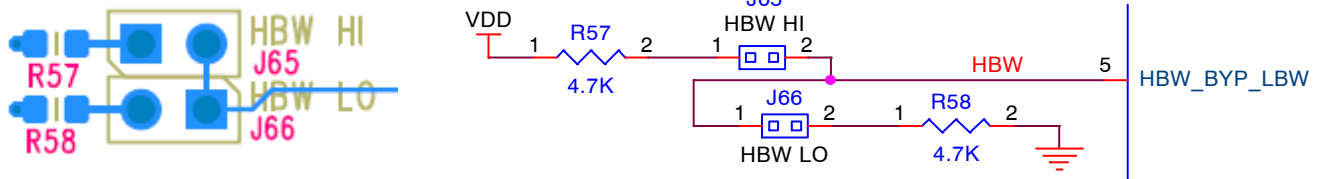

Figure 4. HBW_BYPASS_LBW# Schematic/PCB Configuration
5. The 100M_133M# and HBW_BYPASS_LBW pins need to be hardware selected with jumpers. See Figures 4 and 7.
At J65 and J66 headers, there is a 4.7 k Ω pull-up to VDD and a 4.7 k Ω pull-down resistor to GND for manual control. See Figure 4.